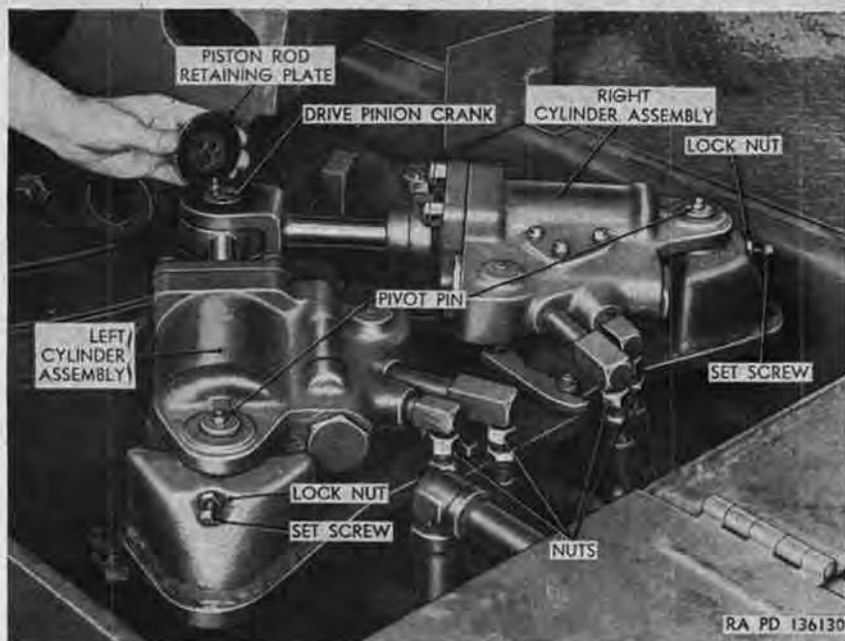

Figure 301. Removing piston rod retaining plate from drive pinion crank M62.
- (3) Cut locking wire, remove two cap screws securing piston rod retaining plate (fig. 301) to drive pinion crank, and remove plate from crank.
- (4) Unscrew four nuts (fig. 301) securing hydraulic lines to elbows installed in swing-hydraulic-motor cylinder assemblies, and remove lines from elbows.
- (5) Loosen two locknuts (fig. 301) and setscrews securing pivot pins in mounting brackets welded to base plate, and drive pins from cylinder bodies and brackets, and remove from underside of base plate.
- (6) Pivot each of the cylinder assemblies on the drive pinion crank to free the cylinder bodies from the mounting brackets. Lift the two cylinder assemblies together from the drive pinion crank. Pull the piston rods apart to separate the cylinder assemblies.
- (1) Position right cylinder piston rod over left cylinder piston rod, and install piston rods on drive pinion crank (fig. 301).
- (2) Position piston rod retaining plate (fig. 301) on crank, secure with two cap screws, and install new locking wire.
- (3) Pivot both cylinder assemblies on the drive pinion crank, and align pivot pin bores in cylinder bodies with holes in mounting brackets. Install pivot pins (fig. 301) in holes in cylinder bodies and mounting brackets, and secure with setscrews. Tighten the two setscrew locknuts.
- (4) Position four hydraulic lines at elbows installed in left and right cylinder assemblies, and tighten connector nuts (fig. 301).
- (5) Time swing motor (*b* above).